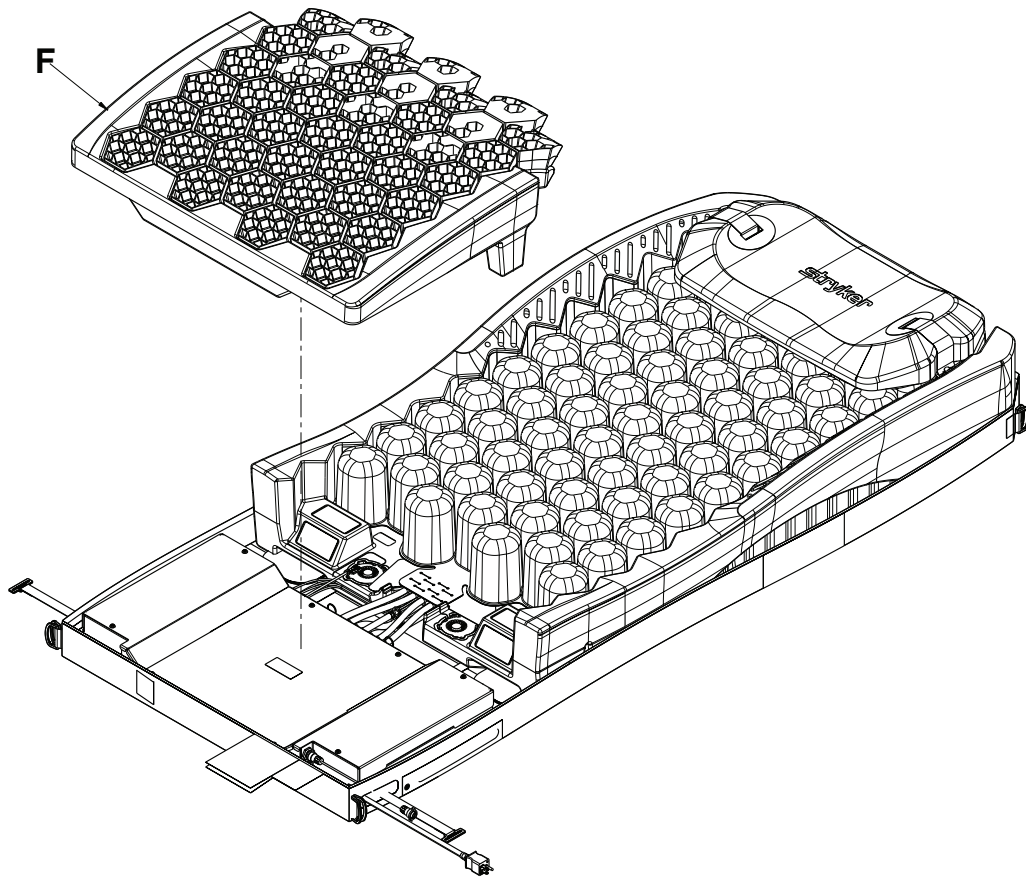

Figure 10 – Gel crib
11. Remove the foot section gel crib (F) by lifting upward (Figure 10). Save gel crib.